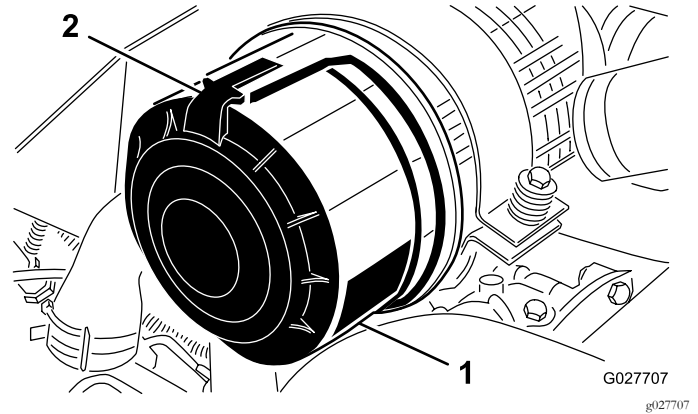

Figure 62
1. Release the latches that secure the air-cleaner cover to the air-cleaner body (Figure 62).